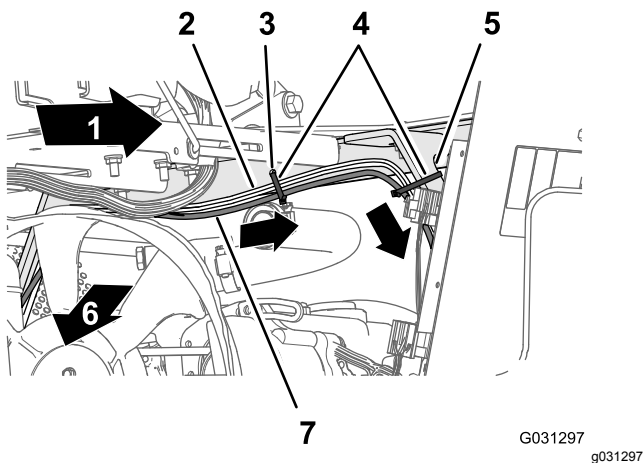
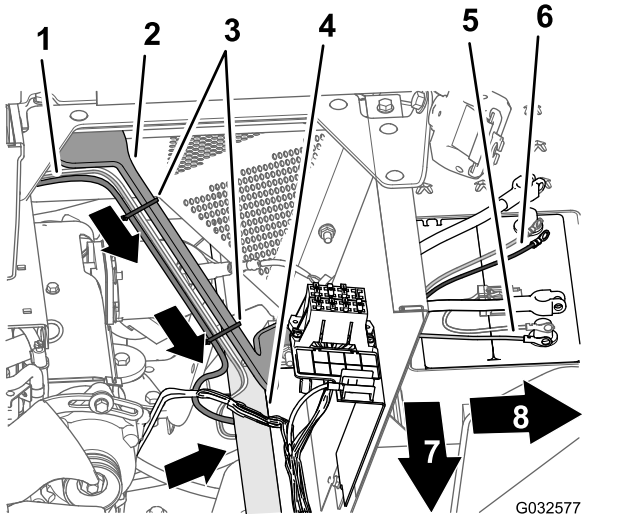

Figure 139
Figure 140
3. Route the 220 cm (86-5/8 inch) branch of the electrical-harness for the navigation system down along the left support for the engine shroud and under the left frame tube (Figure 139).
4. Secure the harness to the hole in the seat-box angle and the engine-shroud support with 3 cable ties (Figure 139 and Figure 140).
navigation system to the top of the battery (Figure 140).